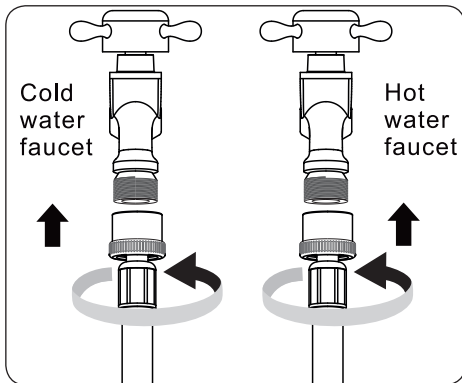

Fig.8
- Hook the hose guide over the side or stand pipe (Fig.8).
1. ENSURE METAL VENT COVER (1) IS INSTALLED OVER EXHAUST FAN AS SHOWN IN FIG.8